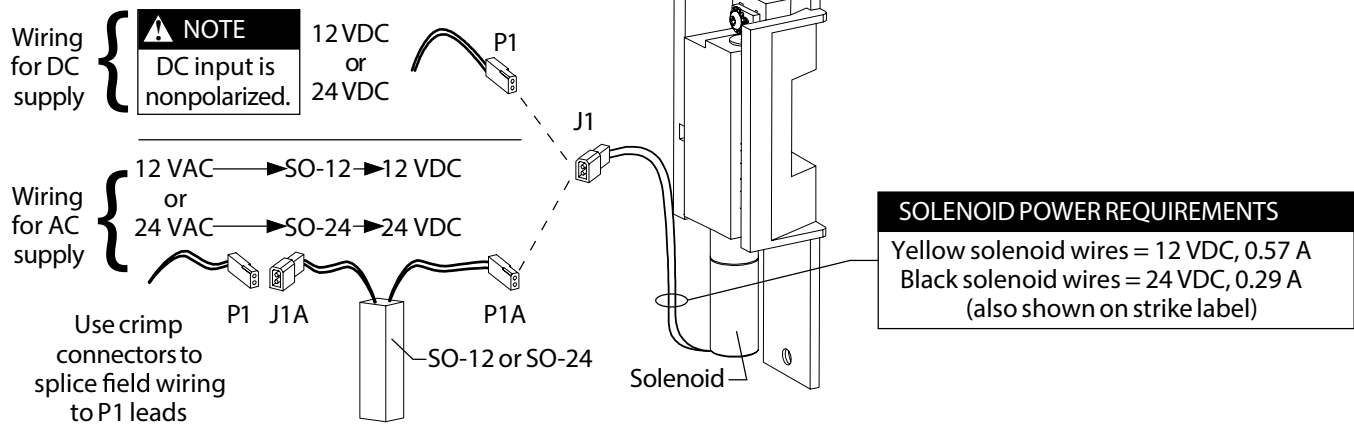
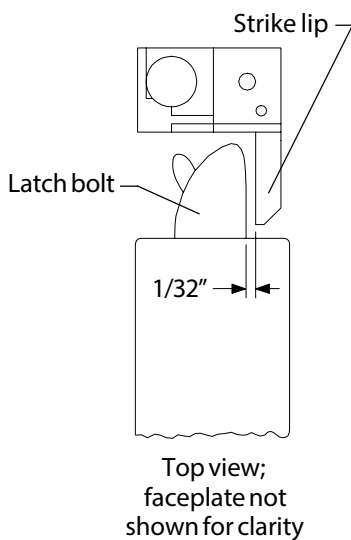
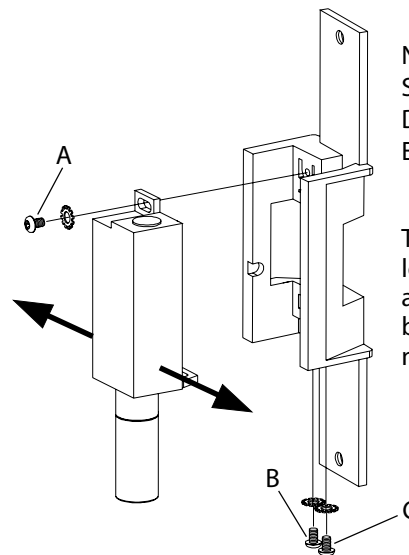

Figure 1
Figure 2
Figure 3
4. Test strike: Apply solenoid power. Fail secure (FSE) lip unlocks. Fail safe (FS) lip locks. Figure 1 shows status of switches.
3. Wire strike (Figure 1).
4. Test strike: Apply solenoid power. Fail secure (FSE) lip unlocks. Fail safe (FS) lip locks.
5. Install strike with two #12-24 screws. Make sure clearance between latch bolt and strike lip is 1/32" (Figure 2). If not, uninstall strike, adjust (Figure 3), and reinstall.
3. Wire strike (Figure 1). (Switches on 6226DS only.)